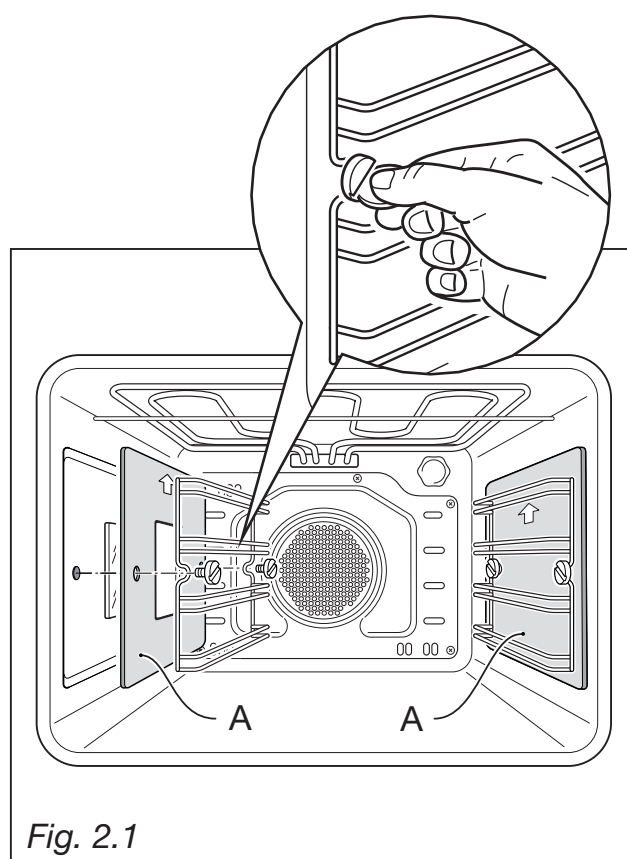

Fig. 2.1
- Assemble the wire racks on the oven walls using the 2 screws (fig. 2.1).
Interpose the catalytic panels **A** with the arrow up (fig. 2.1); the catalytic panel with the hole for the side oven lamp must be positioned on the left oven wall. **DO NOT INTERPOSE THE CATALYTIC PANEL WITHOUT THE HOLE ON THE LEFT OVEN WALL.**
- Unscrew the fixing screws and slide off the wire racks and the catalytic liners to the oven wall as in fig. 2.1.
- Screw the side rack onto the oven wall interposing the catalytic panels (Fig. 2.1).